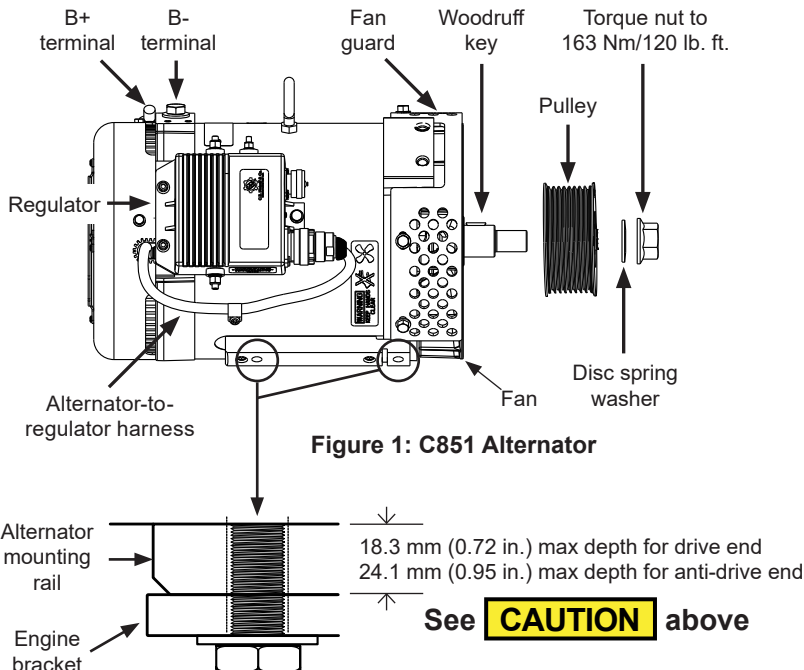
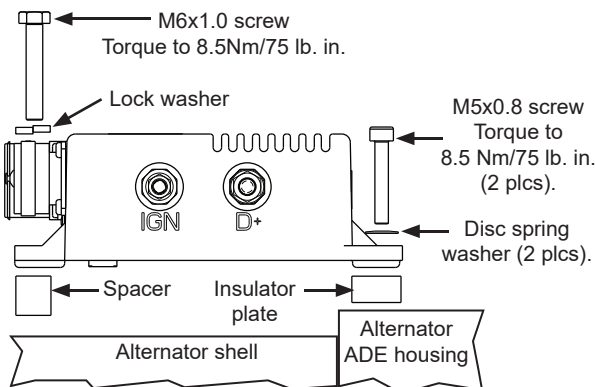

Figure 1: C851 Alternator
Figure 5: Mounting Regulator
2. Ensure fan is fully seated and spins freely. Then install pulley and furnished disc spring washer with beveled side facing pulley. Torque pulley nut to 163 Nm/120 lb. ft. See Figure 1.
CAUTION *Minimum recommended thread engagement is 12.7 mm (0.5") into alternator drive end mounting holes and 16.5 mm (0.65") into anti-drive end mounting holes. Maximum mounting screw depth into alternator regardless of washer and bracket stackup is 18.3 mm (0.72 in.) into drive end mounting holes and 24.1 mm (0.95 in.) into anti-drive end mounting holes. See Figure 1 inset. EXCEEDING MAXIMUM DEPTH WILL RESULT IN IMMEDIATE ALTERNATOR FAILURE.*
2. Mount regulator on alternator with included hardware as shown in Figure 1 on page 1 and Figure 5 below or remotely with extension harness¹. Torque regulator mounting screws to 8.5 Nm/75 lb. in.